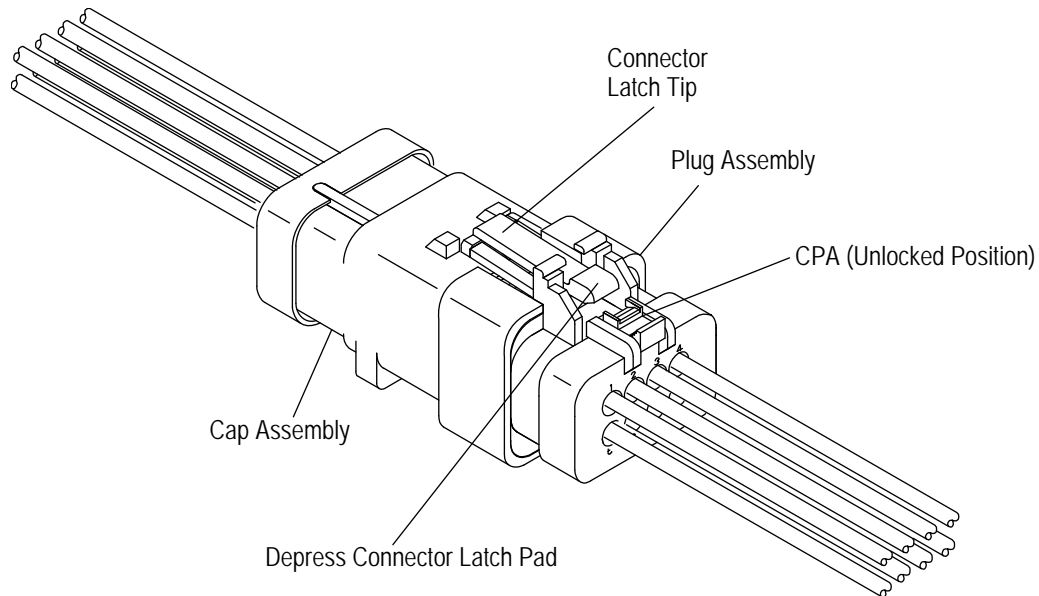

Figure 8
Damaged or misplaced contacts can be replaced on an individual basis. Refer to Figure 8 and separate the connector and remove the contact by the following procedures:
1. Slide the CPA toward the rear (wire end) of the cap housing assembly to reveal the connector latch tip. See Figure 8.